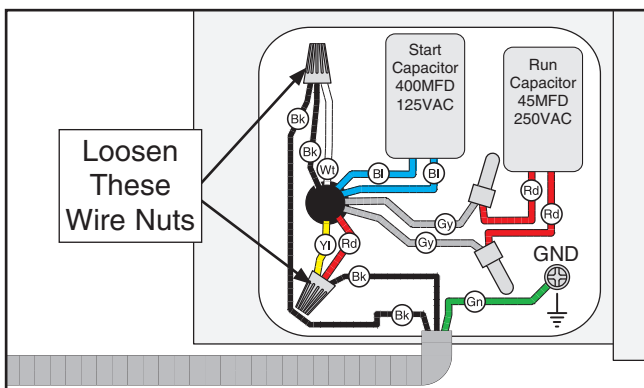

Figure 8. Location of wire nuts to be loosened on Model G0806 when converting voltage.
3. Remove motor junction box cover, then loosen wire nuts indicated in **Figure 8**.